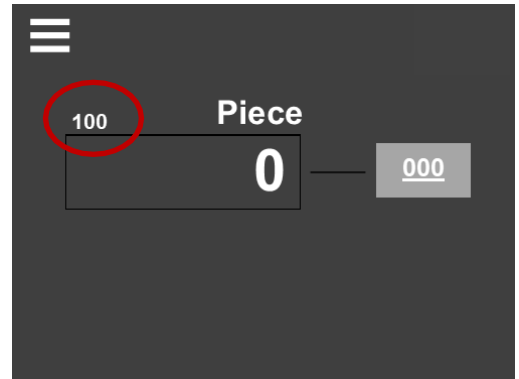

Figure 8.4.3
- The entered quantity is displayed on the production screen. See Figure 8.4.3.